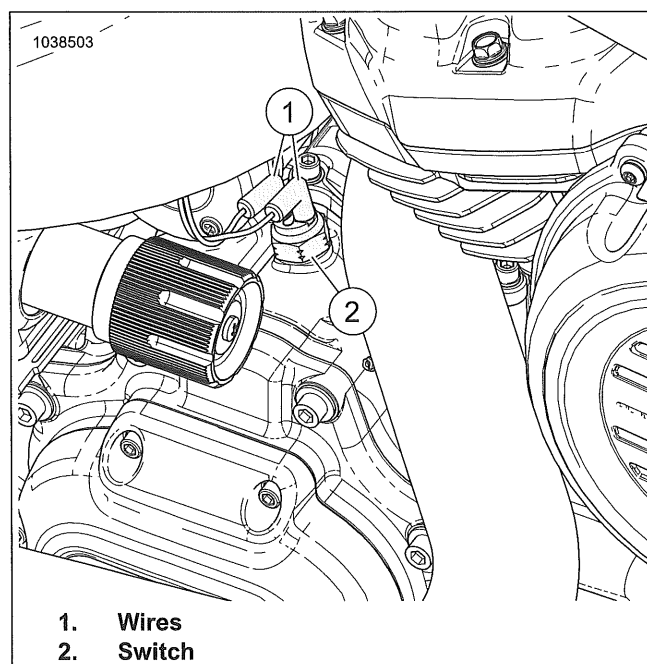

Figure 7-40. Neutral Indicator Switch
1. See Figure 7-40. Disconnect wires (1) from switch.
2. Remove switch (2).
1. See Figure 7-40. Install **new** switch (2). Tighten.